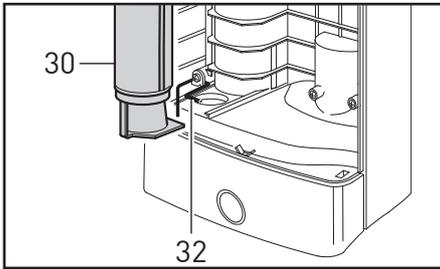

Figure 8
Changing the Micro Filter - Figure 8
3. Micro Filter not properly inserted.	3. Re-insert filter (see pg.8, figure 8).